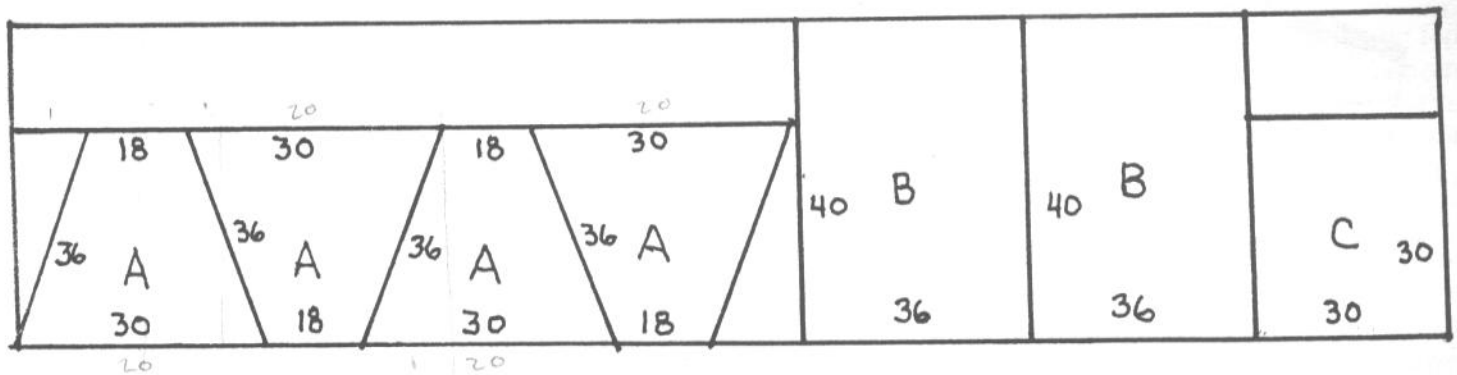

Fig. 9-2 Layout for Cutting Wind Chute
1. The basic design does not function quite as described. The wind catcher panels are too short, and will readily “blow out” of the chute in even a light breeze.. I added an 8-inch triangular extension to these panels (Part B in figure 9.2) (an isosceles triangle the full 40” width of panel diagonal, with an 8” vertical dimension). An 8” longer panel B (44” instead of 36” would probably also work. That would change the 6” measurement in step 7, page 64 to 14”.
4. If used as described inside the hatch, the bottom opening (with the screen) should be 4” to 5” larger than the inside dimension of the hatch. Adjust the 30” dimensions in figure 9.2 as necessary. Also, make sure that the side dimension of the bottom of the chute is about the diagonal dimension of your hatch opening, so the entire wind chute can be assembled on deck and the lower section dropped through the hatch. For example, my hatch opening is 16.5 inches square with slight radius on the inside corners, and the finished dimension of the bottom of the chute is 21 inches square. It just fits through the hatch, and seals well when the halyard is pulled snug. I see no reason why a wind chute could not be made for a rectangular hatch.